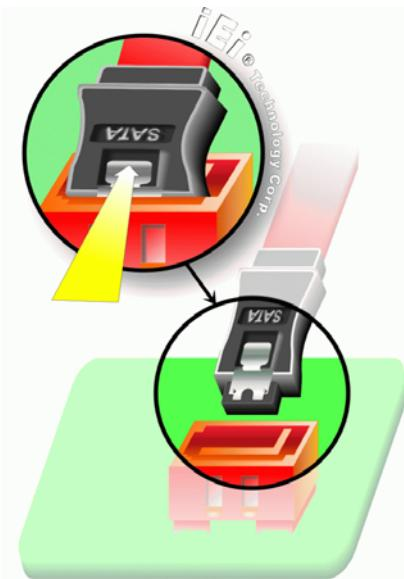

Figure 5-22: SATA Drive Cable Connection
Step 2: Insert the cable connector. Press the clip on the connector at the end of the SATA cable and insert the cable connector into the onboard SATA drive connector. See Figure 5-22.